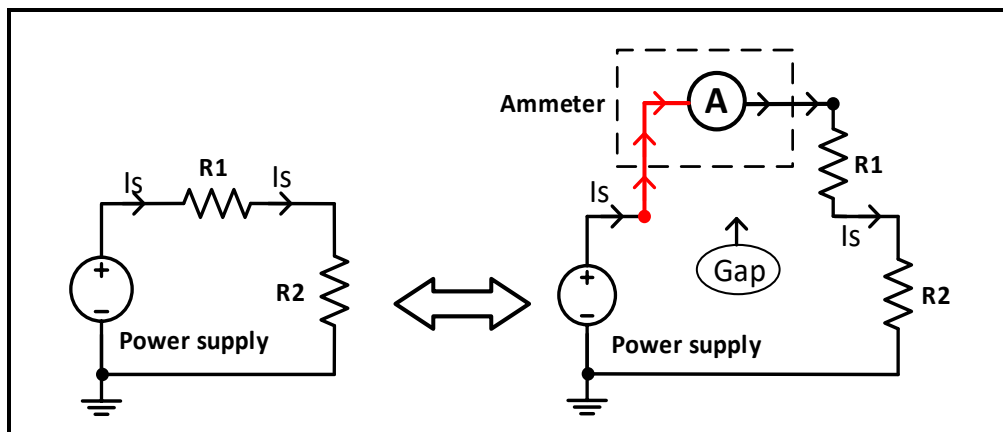

Figure 2.8: Multimeter connection to measure current.
- **Selecting suitable range** for voltage measurement is done in the same way for resistance measurement. Note that the unit of measurement is (mV) or (V) depending on the selected range.
- An ammeter is connected **in series** with the element in the circuit through which you want to measure the current. This means, for example, if you want to measure the current through a cable between two devices, you will have to disconnect that cable, and reconnect it through the meter, as shown in figure 2.8.